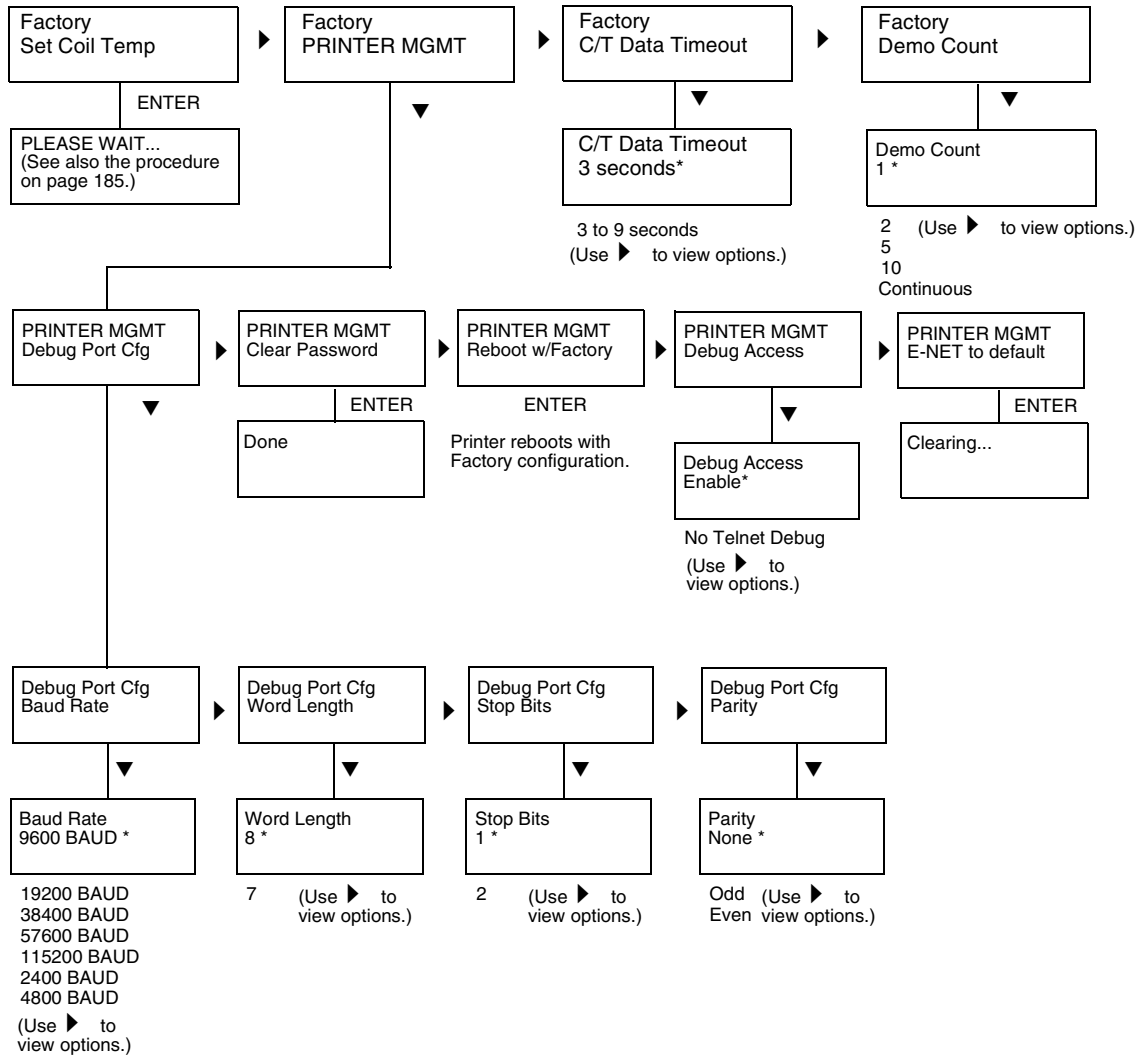

Figure 9. Factory Menu
The factory menu is a multi-level menu that operates the same way as the user menus. The menu structure is shown in Figure 9 on page 151.
5. Press **▲ + ▼ + ► + ◄** to enter the factory menu. (Press all four keys at the same time.) "Factory / Set Coil Temp" appears on the display. Menu options are shown in Figure 9.